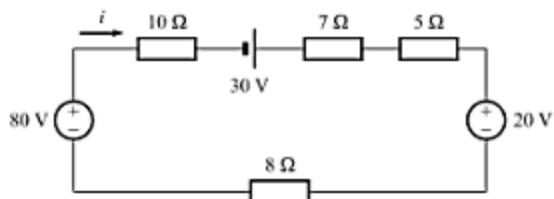

Fig. A-58
- A-9. Determine the current i and the power delivered by the 80-V source in the circuit of Fig. A-58.